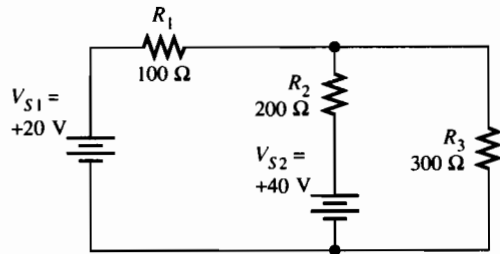

Figure 11-4
5. Use the superposition theorem to find the current in R_2 in Figure 11-4.